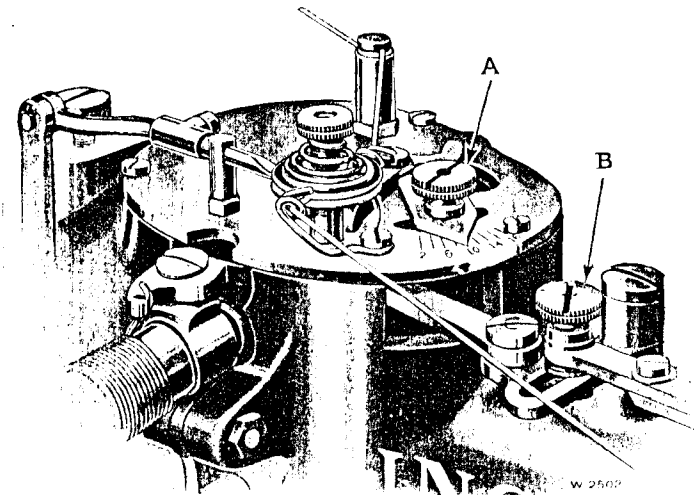

Fig. 15. Barring Stitch Regulator
The width of bight is regulated by the thumb screw (B, Fig. 15) which holds a movable stud in a slotted link at the top of the machine. To increase the width of bight, loosen the thumb screw (B) and move the stud to the left in the slot. To decrease the width of bight, move the stud to the right in the slot. When the desired width of bight is obtained, tighten the thumb screw.
that the machine will make. The pointer on this plate shows the number of barring stitches that the machine is ready to make. To change the number of barring stitches loosen the thumb screw (A, Fig. 15) and move the pointer until it points to the number corresponding with the desired number of barring stitches, then tighten the thumb screw.